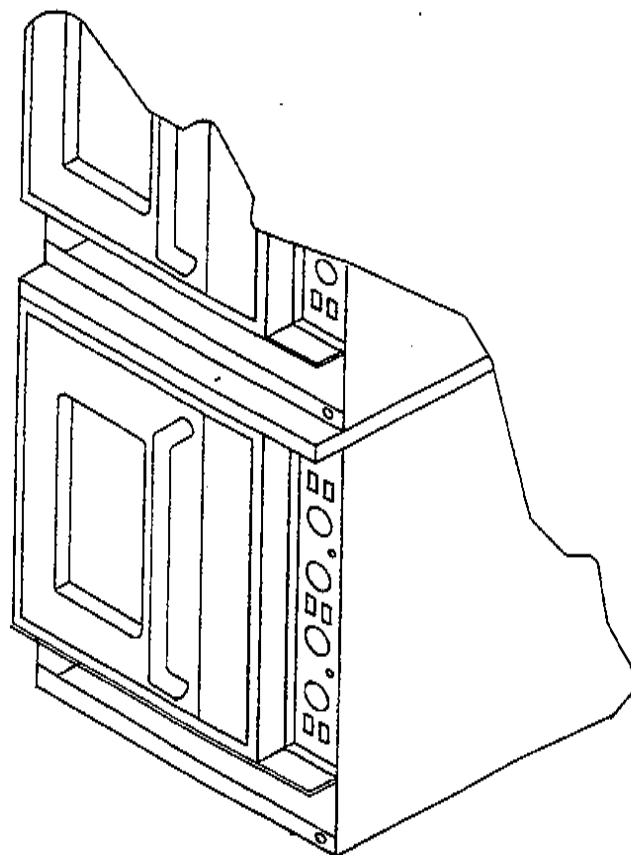

FIGURE 9
5. Next, lift the top unit and position it on top of the lower unit as shown in Figure 9.